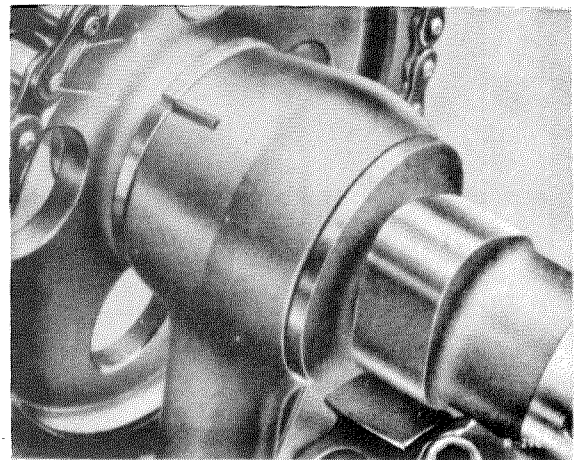

Fig. 01—4/53
Insert jointing link (2) from front to rear (contrary to direction of travel). Fit spring clip (1) with its closed end pointing in the direction the timing gear turns (Fig. 01—4/53).
7. Press back the tension sprocket bearing as far as it will go, using Bleeder Lever 187 589 02 63, or, if necessary, with a screwdriver, at the same time continually topping up the oil case in the cylinder head with warm engine oil (see Fig. 01—4/14). Now gradually release the sprocket bearing with the lever or screwdriver, at the same time continually topping up with oil, so that the oil case is always full of oil and the chain tensioner cannot suck in any air. Then "pump" the tension sprocket bearing until no more air bubbles can be seen at the chain tensioner. The important thing is to maintain the necessary oil level during the bleeding process.
Check whether the spring clamps have engaged in the notches in the rocker arm blocks (see arrow in Fig. 01—4/15).
When installing the assembled rocker arms, turn the camshaft to the position where the rocker arms are not under load (Fig. 01—4/17).